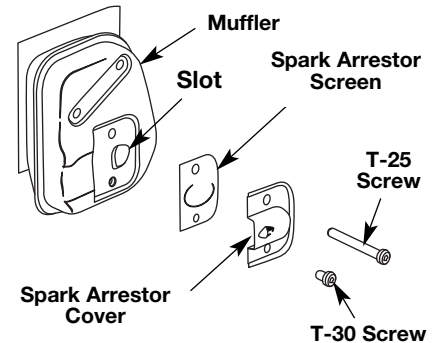

Fig. 39
2. With a flat blade screwdriver or Torx T-20 bit and a T-25 bit, remove the screws attaching the spark arrestor diverter to the muffler (Fig. 39).